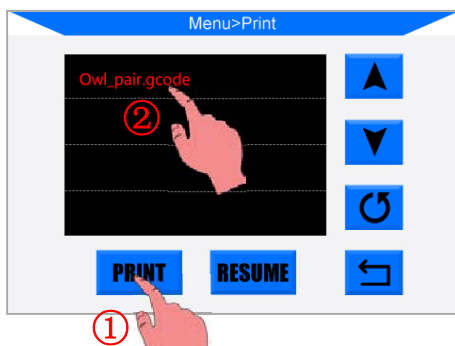

Figure 31
3. Insert the SD card into the SD card slot at the base. On Home Menu, Click “Print” to enter the files list. Click a exist file (e.g. “owl_pair”), and click “Print”(Fig.31). The machine will be sequentially heating the heated bed and nozzle and then print.